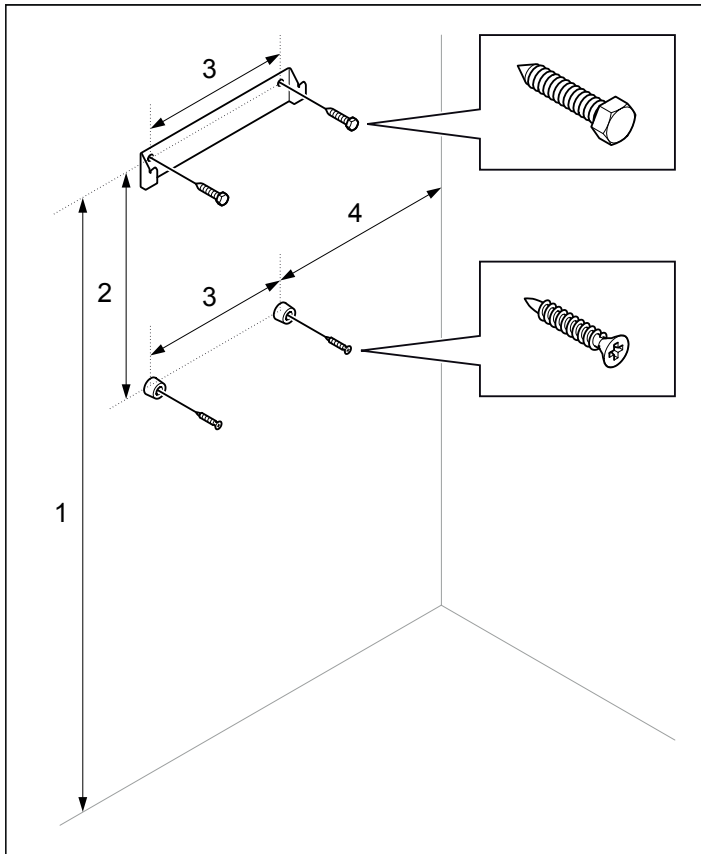

Figure 10: Bracket with screws and spacers
8. Attach the bracket and spacers to the wall following the specified dimensioning (see Figure 10).